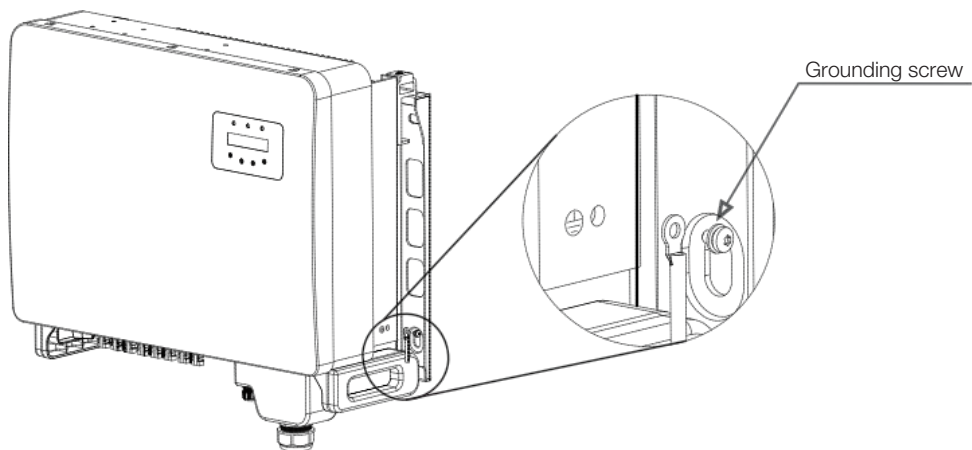

Figure 5.9 Fixed cable
- Connect the grounding cable to the grounding point on the heat sink, and tighten the grounding screw, Torque is 3-4Nm(see figure 5.9).